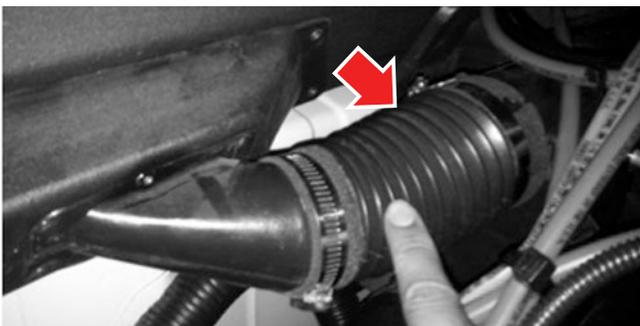

Figure 10-2
2. Disconnect the ducting at the HVAC unit end on both LH and RH sides (see Figure 10-2).